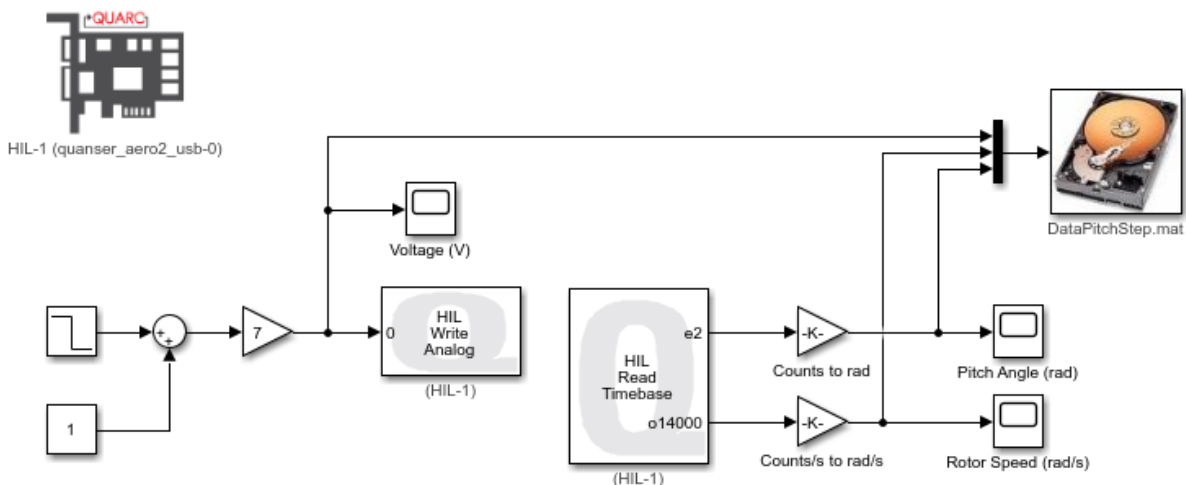

Figure 1 – q\_aero2\_pitch\_step.slx Simulink model
2. Open the the *q\_aero2\_pitch\_step.slx* Simulink model as in Figure 1 above.